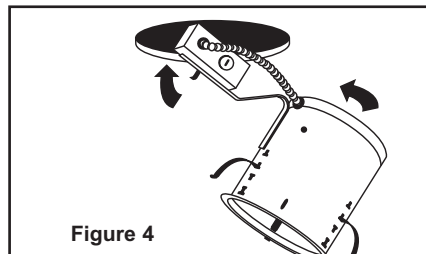

Figure 4
**Step 4.** Press housing through ceiling opening so it is flush to ceiling (Fig. 4). Push retention clips outwards until each clip tab clicks into position.